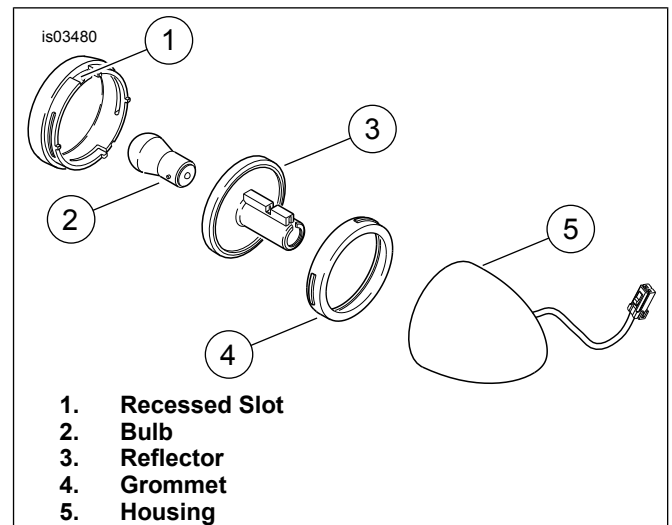

Figure 6. Lamp Assembly
- a. See Figure 6. Insert a flat-bladed screwdriver into recessed slot on turn signal lens. Gently twist until lens pops out.